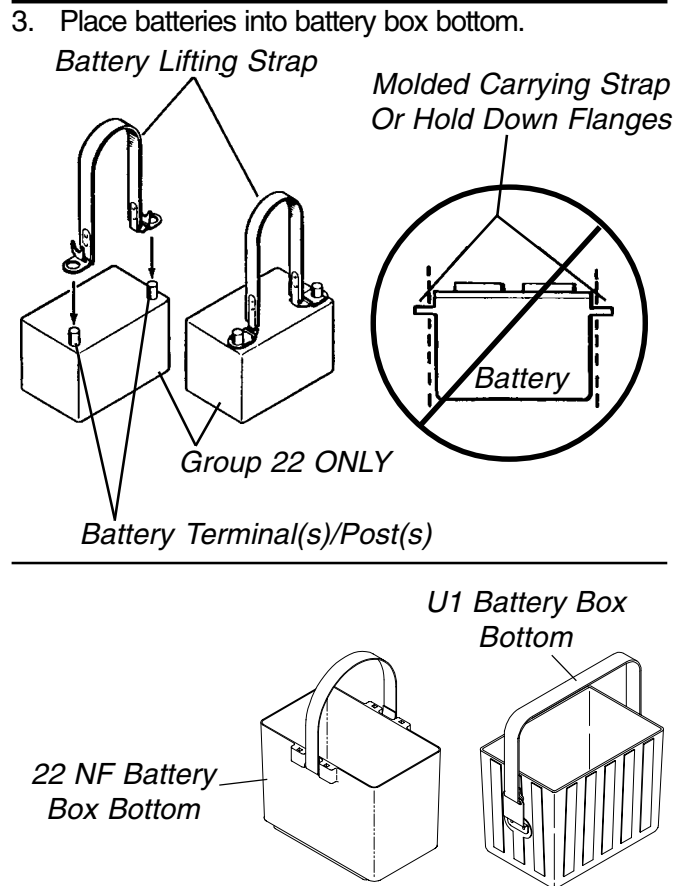

FIGURE 1 - INSTALLING/REMOVING BATTERIES INTO/FROM BATTERY BOXES
2. Secure the battery lifting strap to battery terminal(s)/post(s) (FIGURE 1).